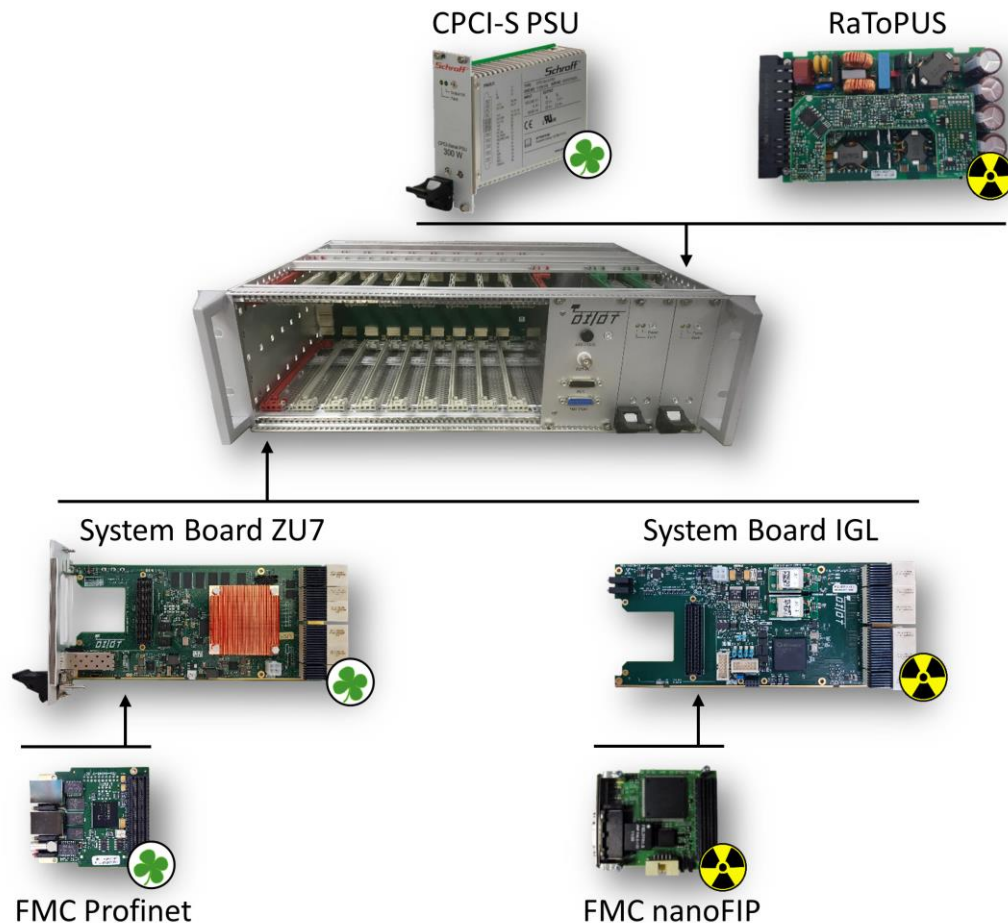

Figure 1: DI/OT modular hardware kit
This document defines the specifications for the DI/OT crate v2.0 [1]. The DI/OT crate is a main component of the Distributed I/O Tier hardware kit (Figure 1, [2]). It hosts two redundant power supplies, the DI/OT System Board (SB), up to 8 application-specific Peripheral Boards (PB) and up to 8 application-specific Rear Transition Modules (RTMs).